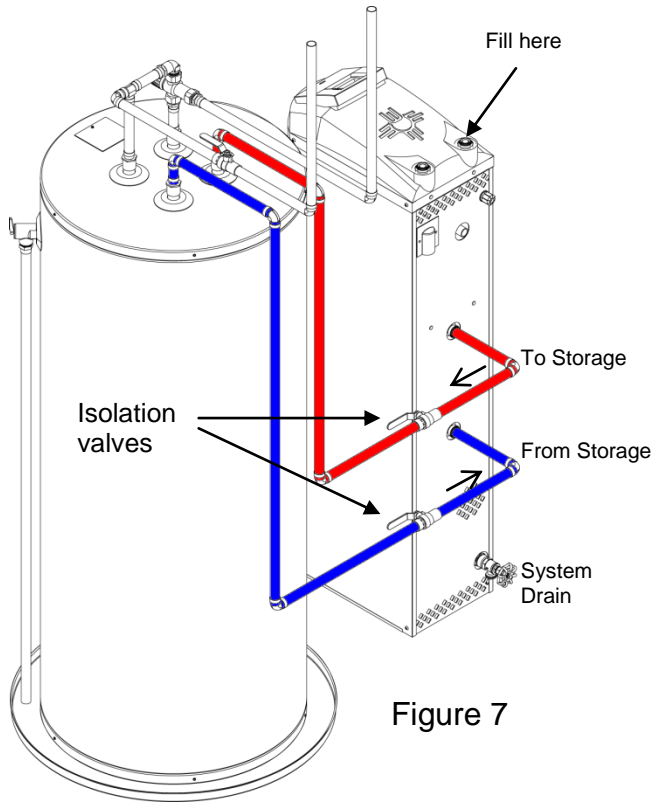

Figure 7
After installing the Water Heater Storage Tank, the **PROPAC™** unit may then be set and installed. Refer to figure 7 for the following 4 steps:
4. Fill the **PROPAC™** reservoir with Distilled Water using the vacant collector supply fitting (See figure 7) (See “Filling” page 11)